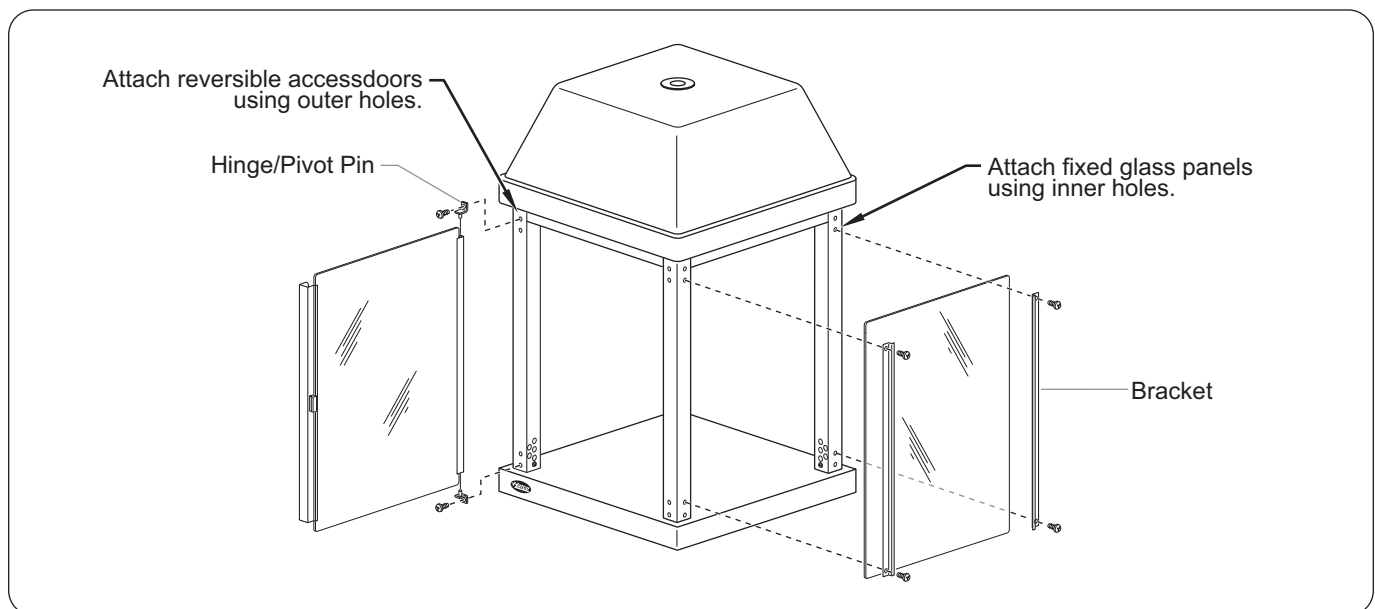

Figure 6. Reversible Access Door and Fixed Glass Panel
3. Rotate the removed hinge and attach (with the pivot pin facing up) using the removed screw to the bottom-most outer hole on the right-hand side of the cabinet (see Figure 6).
6. Line up the holes in one bracket with the inner holes in the cabinet and attach with the screws (see Figure 6). Repeat on the opposite side of the fixed glass panel.